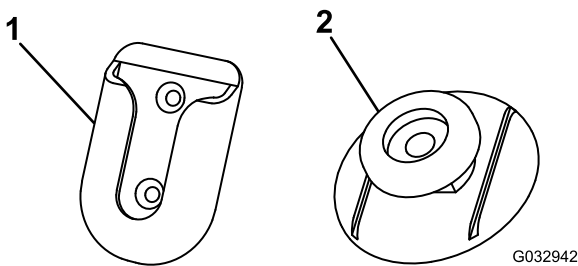

Figure 7
4. Clean the back of the swivel mount (Figure 7) with the alcohol wipe and then dry it.
8. Remove the backing from 1 side of the adhesive and apply it to the back of the mounting tab (Figure 7).